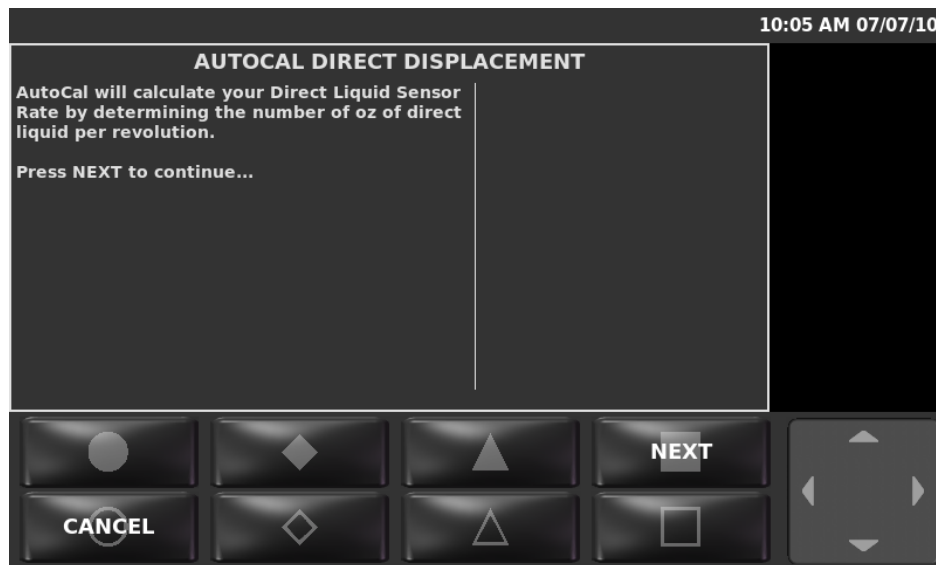

Figure 7: AutoCalibration Direct Liquid Material Displacement Wizard
- STEP 6: The AutoCal Displacement wizard will appear, as shown in Figure 7.